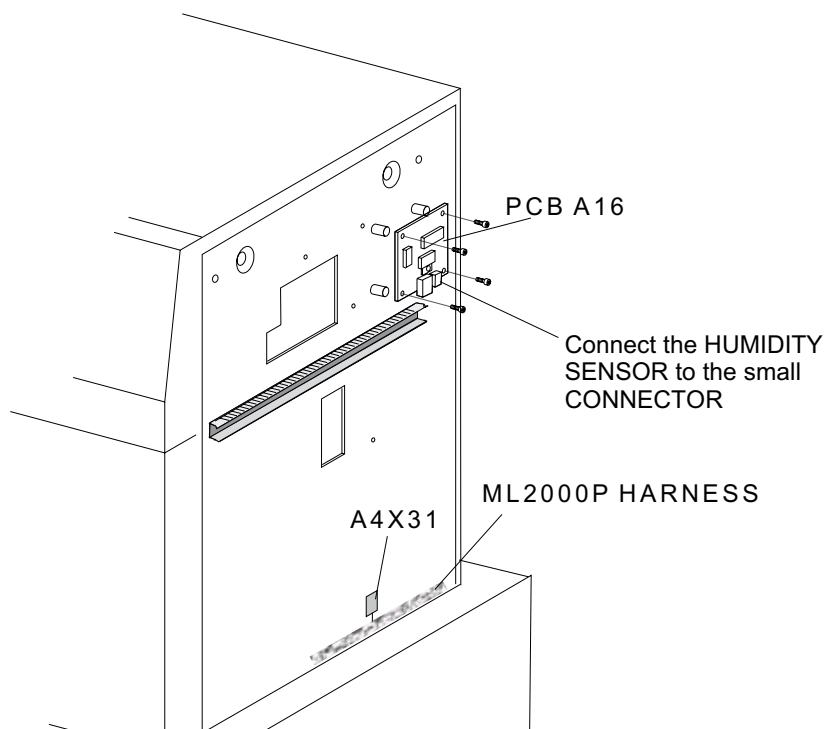

figure 1-8
- 11.** Connect the HUMIDITY SENSOR to the small CONNECTOR on PCB A16. See figure 1-8.
15. Locate CONNECTOR A4x31 in the ML2000 P Harness. Plug in A4X31 from the HUMIDIFIER. See figure 1-8.